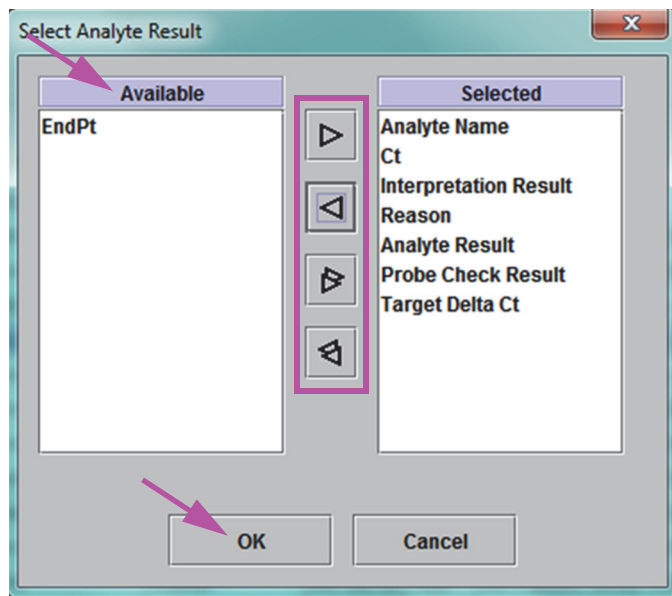

Figure 5-49. Select Analyte Result Dialog Box
- The **Analyte Result** button allows the user to select specific information to include in the Analyte Result section of the report (see Figure 5-49).